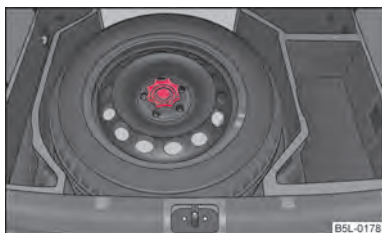

Fig. 165 Luggage compartment: Spare wheel
The spare wheel is stowed in the luggage compartment in the area below the variable loading floor and is secured with a special screw → fig. 165.
- Stow and attach the replaced wheel in the spare wheel well using a special screw ⇒ fig. 165.